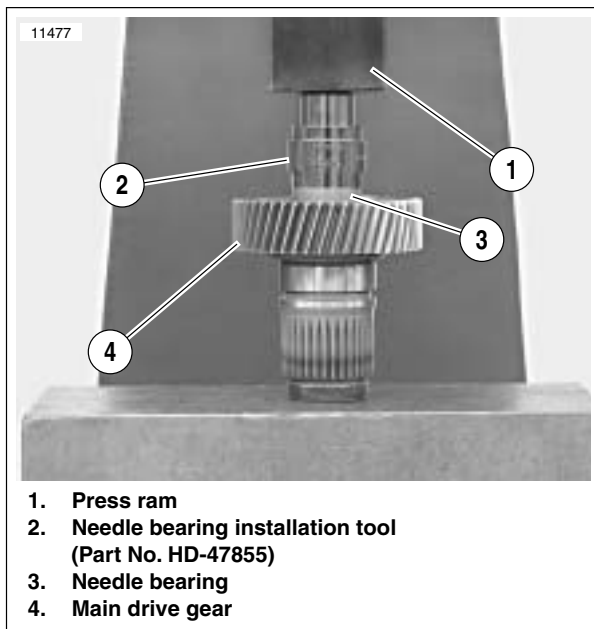

Figure 6-72. Pressing Inner Needle Bearing Assembly into Main Drive Gear
- a. See Figure 6-72. Place main drive gear (4) on press bed with gear end facing up.
- b. Place needle bearing (3) squarely into end of drive gear. Insert installation tool (2) with end stamped "INNER" facing needle bearing.